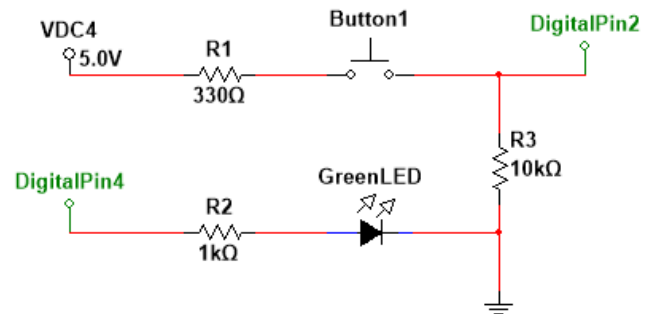

Figure 1. Schematic set up showing components and Arduino UNO header connections.
A. Build the physical circuit shown in Figure 1. A photograph of the complete lab exercise can be seen in Figure 3.